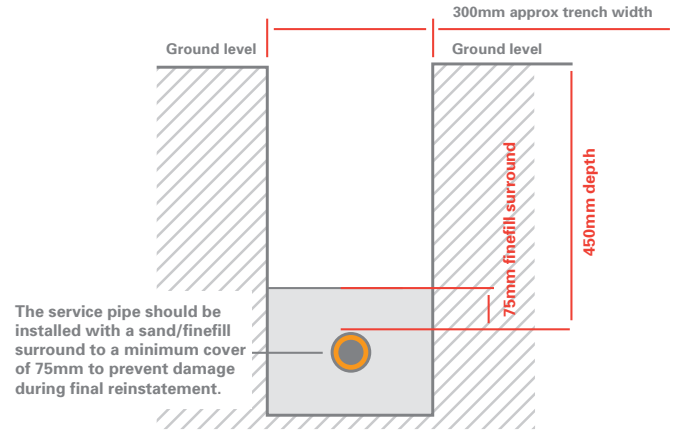

Figure 1 - Reinstatement of service pipe
- The service pipe must be laid with the minimum depths of cover with a sand/ finefill surround of 75mm to prevent damage during final reinstatement as shown in Figure 1.